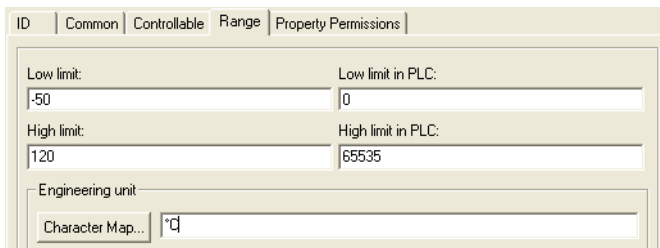

Figure 30. Range Tab for a Signal Type
- 6. Enter an engineering unit, see also Figure 30. (You can use **Character Map** to add special characters.)